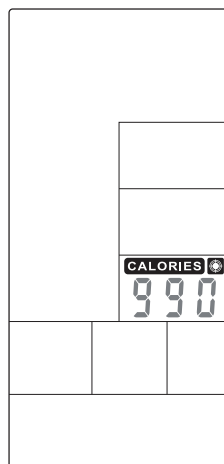

FIGURE 43
- Press UP / DOWN (KEY 10 or 11) to adjust the value (Figure 43) then press ENTER (KEY 19) to confirm.